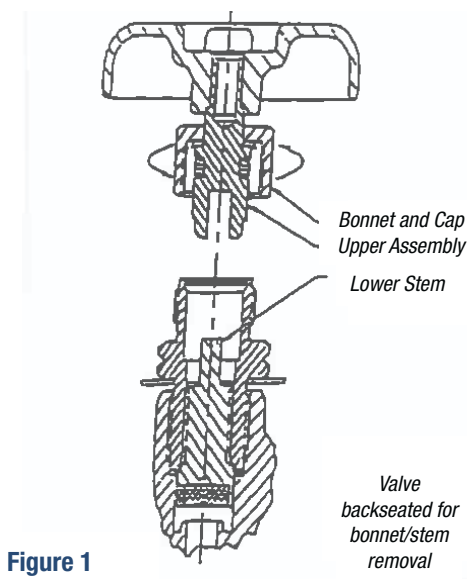

Figure 1
2. Hold the lower portion of the dual bonnet in place with a ¾" end wrench. Without turning the handwheel, use a second 1⅞" end wrench to remove the upper stem assembly by turning the bonnet cap counterclockwise (see Fig. 1). Destroy the old assembly so it cannot be reused.